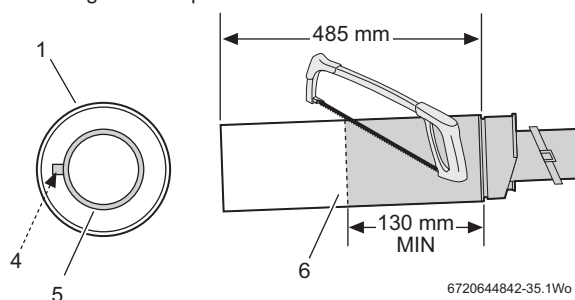

Fig. 11 Further reduction
- ▶ Mark the length required for the terminal as shown in figure 11 (min. 130mm) and cut square, taking care not to damage the tubes.